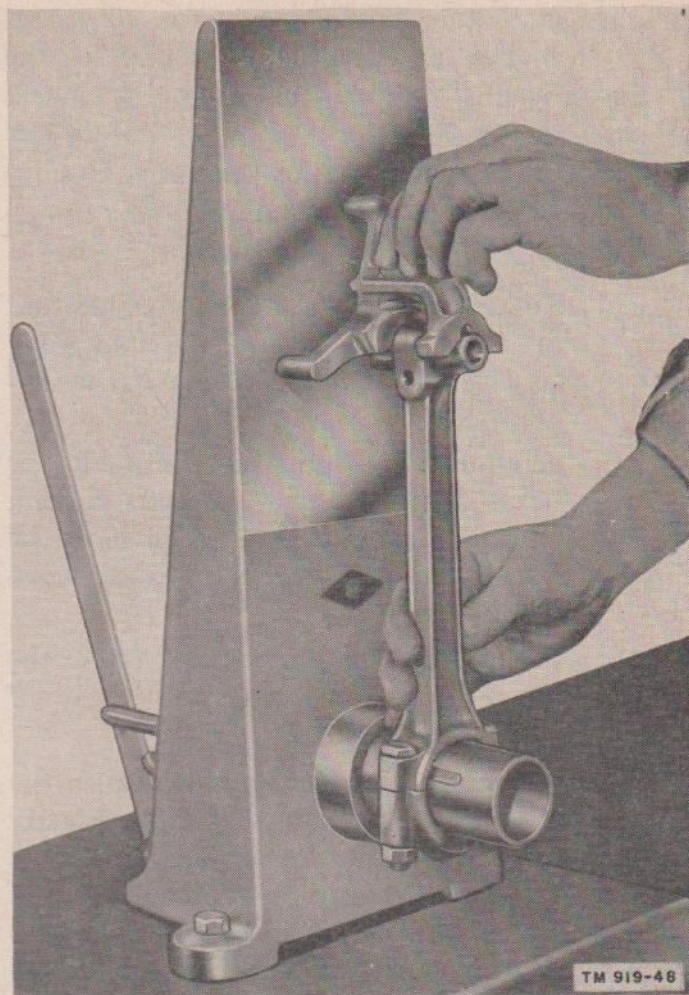
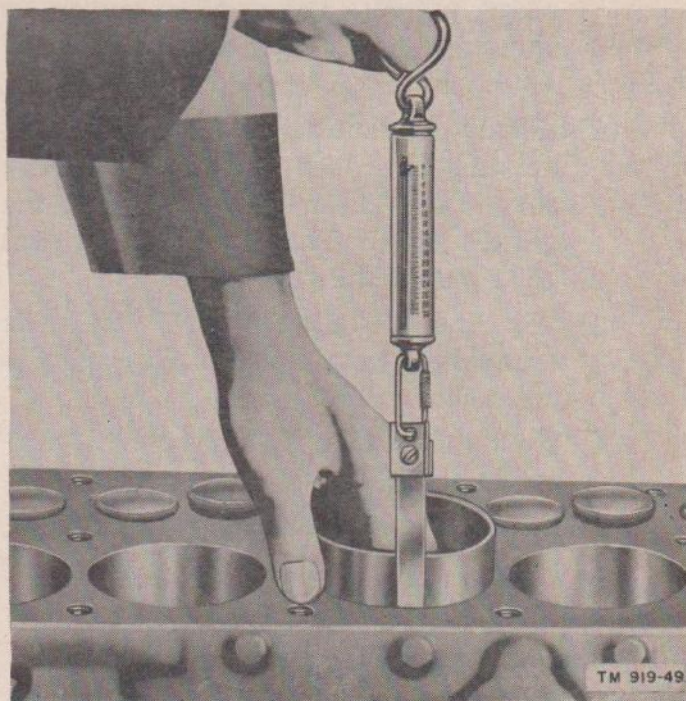

Figure 49. Alining connecting rod.
Figure 50. Checking piston clearance.
- (10) Remove the piston rings with a conventional ring remover.
- (11) Remove the piston from the connecting rod by first removing the lock-screw. Then tap the piston pin from the piston and connecting rod.
- (12) Check the connecting-rod bearing clearance and side clearance as instructed in paragraph 59g(6).
- (13) Check the connecting rod on an aligning fixture (fig. 49).
- (14) Examine the bearing for chipping, scoring, and cracking. Examine the back of the bearings for bright spots, which indicate a loose fit in the caps.
- (15) Clean the bearings and caps with fuel oil (D-40 or D-35) or cleaning solvent.
- (16) Measure the clearance between the piston and cylinder wall as follows: Insert an inverted piston into the cylinder. Then measure the clearance with a .003-inch, $\frac{3}{4}$ -inch wide feeler gage (fig. 50). This should give a 5-pound to 10-pound pull when being removed. The gage should extend the full length of the piston on the thrust side, opposite the slot.
- (17) Scrape the carbon from the ring groove and soak the pistons in cleaning solvent. After soaking, clean the grooves again to be sure all carbon has been removed.